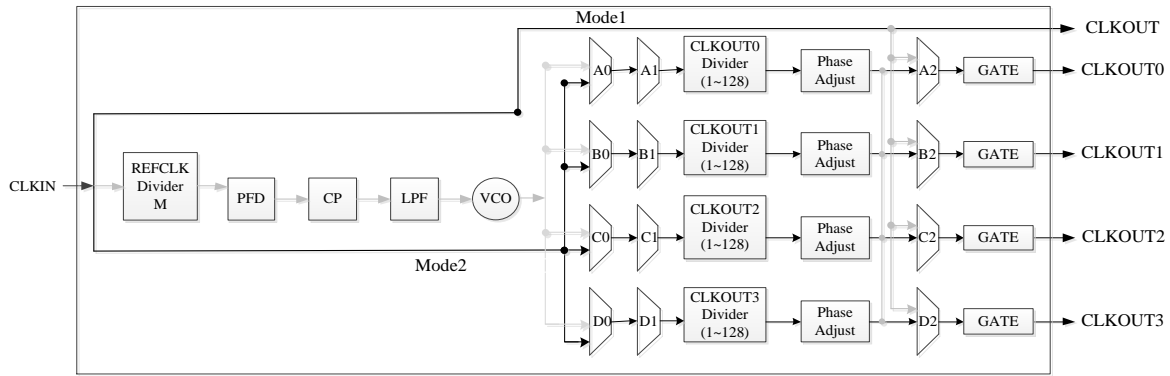

Figure 2-26 PLL Bypass Output Diagram
Mode 1: After the input reference clock CLKIN enters the PLL, it does not pass through the input divider, phase frequency detector (PFD), charge pump (CP), loop filter (LPF), and oscillator (VCO), and output dividers; it is directly routed through a bypass structure as shown in Figure 2-26.
Mode 2: After the input reference clock CLKIN enters the PLL, it does not pass through the input divider, PFD, CP, LPF, and VCO modules, but does pass through the output divider. The divided clock signals are then output from the PLL output ports CLKOUT0/CLKOUT1/CLKOUT2 /CLKOUT3; the specific flow of clock signals in bypass mode is shown in Figure 2-26.